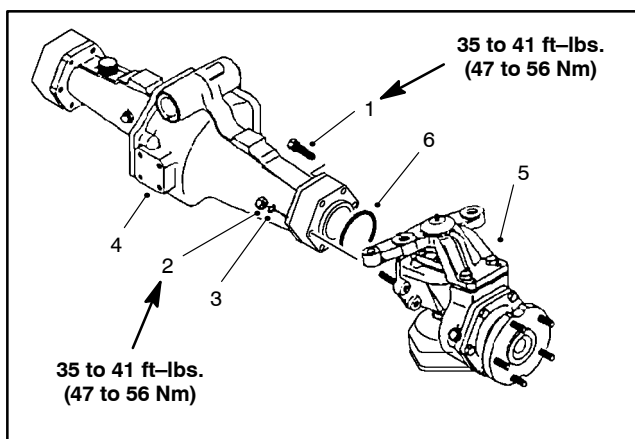

Figure 13
12. Coat a new O-ring with grease and install the bevel gear case/axle case assembly on the axle support. Tighten mounting screws and nuts from 35 to 41 ft-lbs. (47 to 56 Nm) (Fig. 13).
1. Remove the mounting screws, nuts, and lock washers. Remove the bevel gear case/axle case assembly and O-ring from the axle support (Fig. 13).